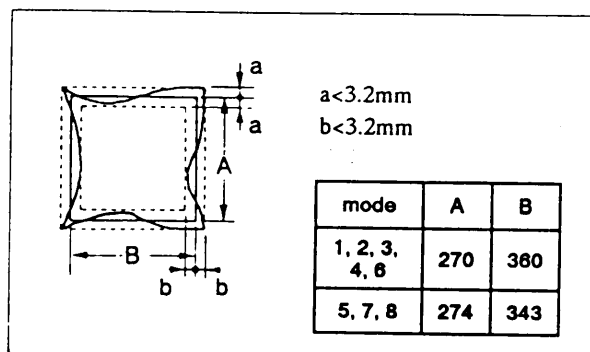

Fig. 6-3-14 Image size and distortion standards
- 1) Image size and image distortion must meet with the conditions specified in Fig. 6-3-14.